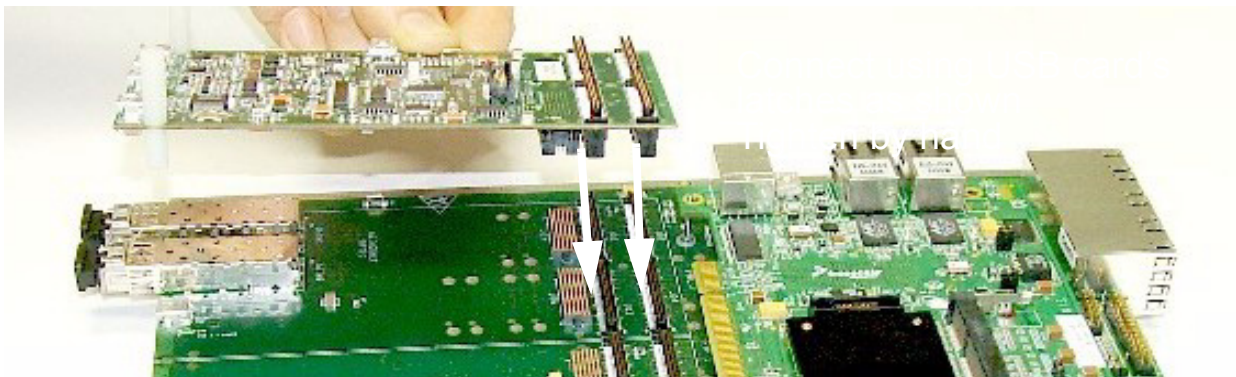
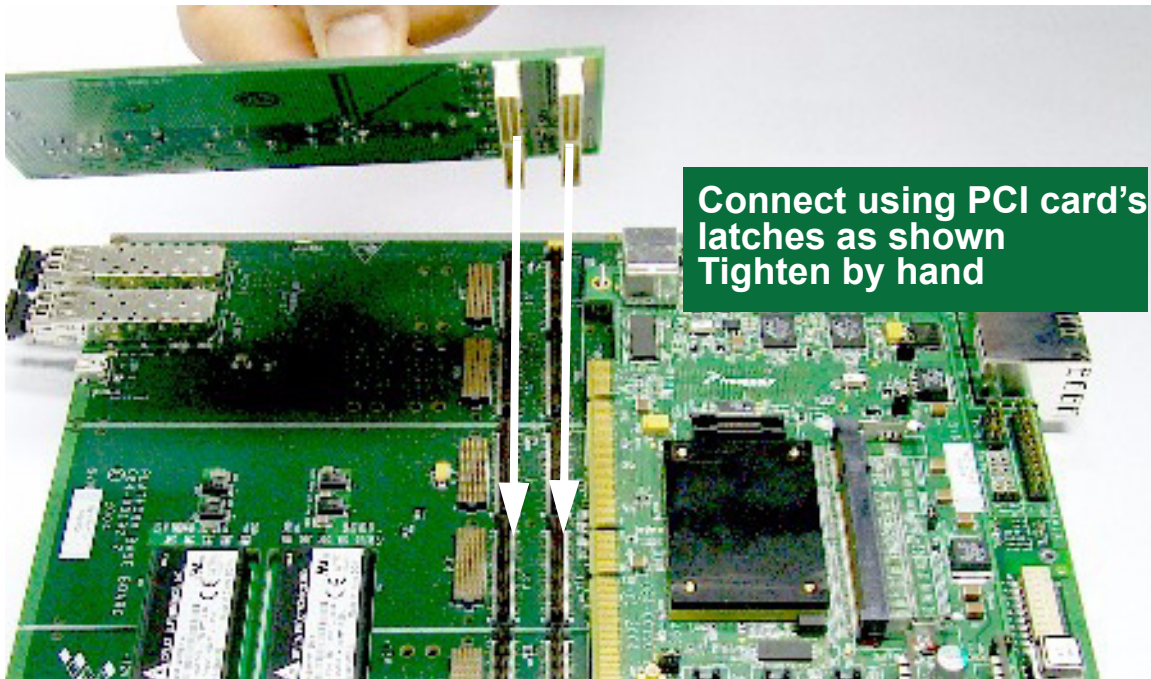

Figure 2-11. Connecting USB card to PIB
Figure 2-12. Connecting PCI card to PIB
8. If you wish to work with the USB card, or any of the PCI cards, follow the illustrations in Figure 2-11, Figure 2-12, and Figure 2-13 to connect these cards to the PIB.